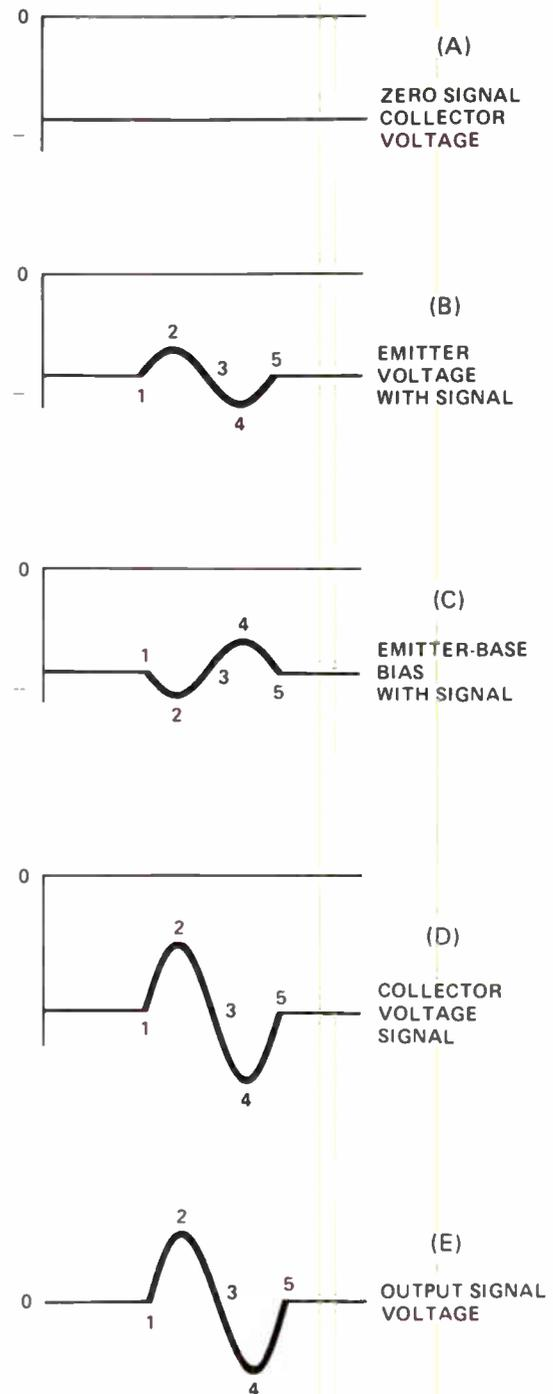
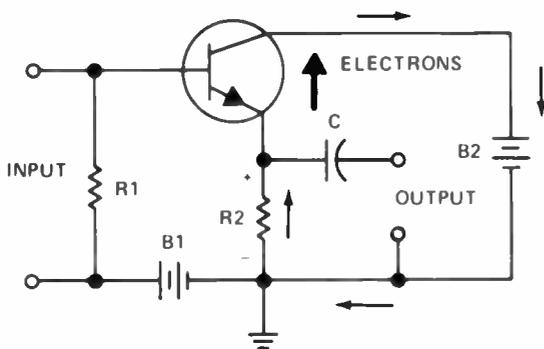
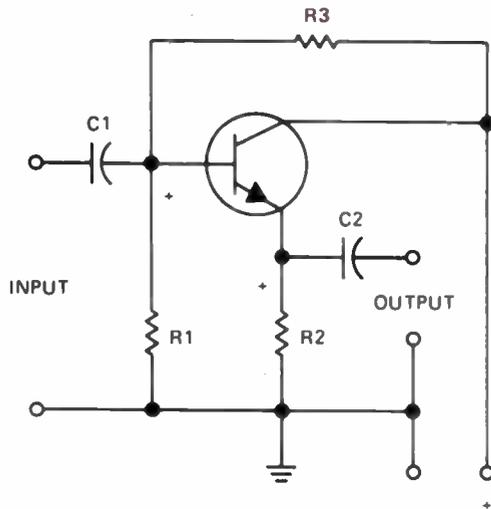

Figure 14. Waveforms for circuit shown in Fig.13.
Figure 15. Basic common-collector circuit using an npn transistor.
Figure 16. Common-collector amplifier using an npn transistor and a single voltage source.
The waveforms in Fig.14 show what happens when a signal is applied to the input. With no signal, the collector voltage is negative and constant, as shown in Fig.14(A), as are the emitter and base voltages. The base is more negative than the emitter; that is, if the emitter voltage is  $-1$  V, the base voltage might be  $-2$  volts.
Figure 14(B) shows what happens to the emitter voltage when a signal is applied. The emitter voltage is at its zero signal level at point 1. During the first half-cycle, as the input signal swings positive from point 1 to point 2 and back to point 3, the input signal drives the emitter voltage in a positive direction. The emitter voltage might drop from  $-1$  volt to  $-0.5$  volt. Now the forward bias across the emitter-base junction is  $-1.5$  V instead of being  $1$  V as it was with zero signal input. The forward bias across emitter-base junction increases as shown in Fig.14(C). The increase in forward bias causes the number of holes flowing through the transistor to increase. When this happens, additional electrons flow from the negative terminal of the voltage source, through R2, to the collector. The voltage drop across R2 increases so that the voltage between the collector of the transistor and ground decreases as shown between points 1, 2, and 3 of Fig.14(D).
When the input signal swings in a negative direction, as it does between points 3, 4, and 5 of Fig.15(B), the forward bias across the emitter-base junction decreases as shown in Fig.14(C). This causes the number of holes flowing through the transistor to decrease, so the number of electrons flowing through R2 to fill these holes also decreases. The voltage drop across R2 decreases so the potential between the collector and ground increases as shown in Fig.14(D). The output signal with the dc collector voltage removed is shown in Fig.14(E).
Figure 15 shows the basic common-collector circuit using an npn transistor. Battery B1 has a low impedance as far as the signal is concerned,
The disadvantages of the circuit shown in Fig. 15 are that it requires two batteries and the input is not isolated from the base of the transistor. We've added the capacitor C1 in Fig. 16, on the next page, to isolate the input from the base
The common-collector circuit has the highest input impedance of the three circuits. Refer to Fig.15. Input impedance is the ratio of the input voltage over the input current. The voltage applied at the input causes a flow of signal current from the emitter, through the transistor, and to the collector. Some electrons traveling from the emitter to the collector exit through the base and R1. But, since the output signal voltage is subtracted from the input signal voltage, as far as the signal voltage applied between the base and emitter is concerned, the actual signal current in the transistor is quite small. Therefore, the total input signal current is small, and this means the input impedance is high.